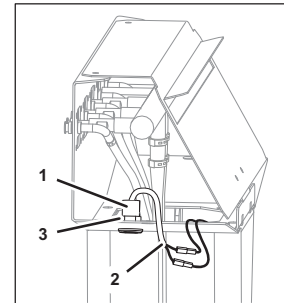

Fig. 38
1. Disconnect the electrical cable (Fig. 38/2) of the key switch (Fig. 38/1).
2. Remove the nut (Fig. 38/3).
3. Remove the key switch (Fig. 38/1)